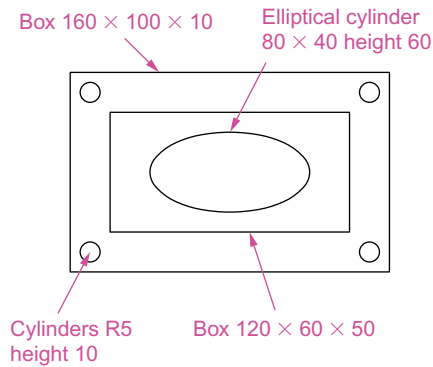

Fig. 12.29 Example – **Chamfer** and **Fillet** – sizes for the model
3. Working to the sizes given in Fig. 12.29 and using the **Box** and **Cylinder** tools, construct the 3D model (Fig. 12.30).